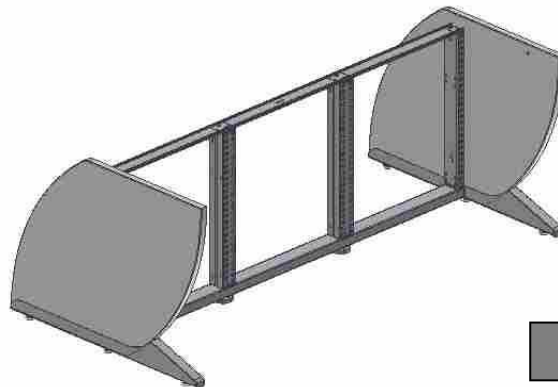

Fig 2
STEP 1 – Insert the hooks of the **TFT support** in the trapezoids of the **frames** (Fig.2).
STEP 1. – Assemble the **console structure**, i.e. **console base frame** with **agglomerate console sides** (Fig.2) or **standard metal TL-TW sides** (Fig. 3).